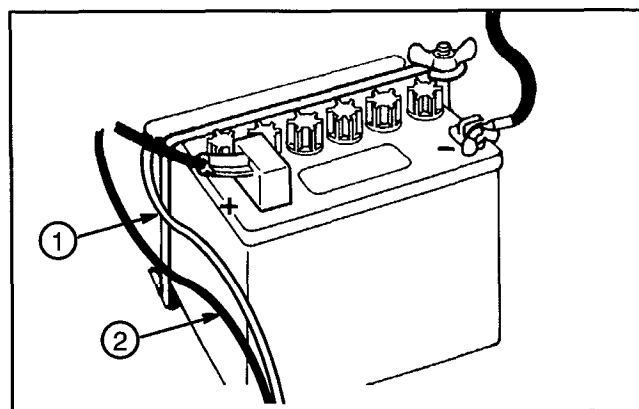

Figure 5
9. Install the battery with the terminal posts toward the rear of the machine and vent tube on left side of battery, thru hole in frame (Fig. 5).
11. Install the red positive cable (rubber boot over end) to the positive (+) terminal and the negative cable (black) to the negative (-) terminal of the battery and secure with capscrews and wing nuts. Slide the rubber boot over the positive terminal to prevent a possible short-out from occurring (Fig. 5).